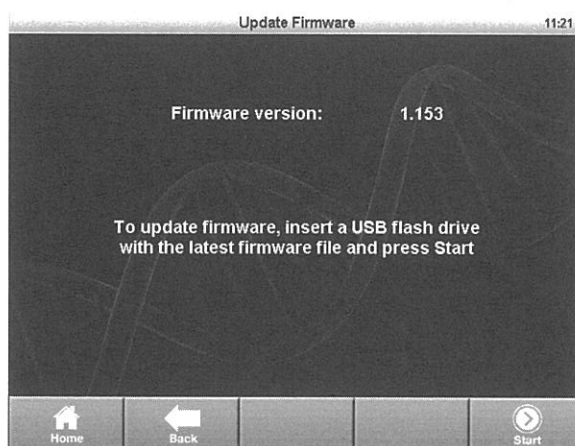

Figure 27. Updating the instrument firmware.
5. Touch **Update Firmware** (Figure 27).